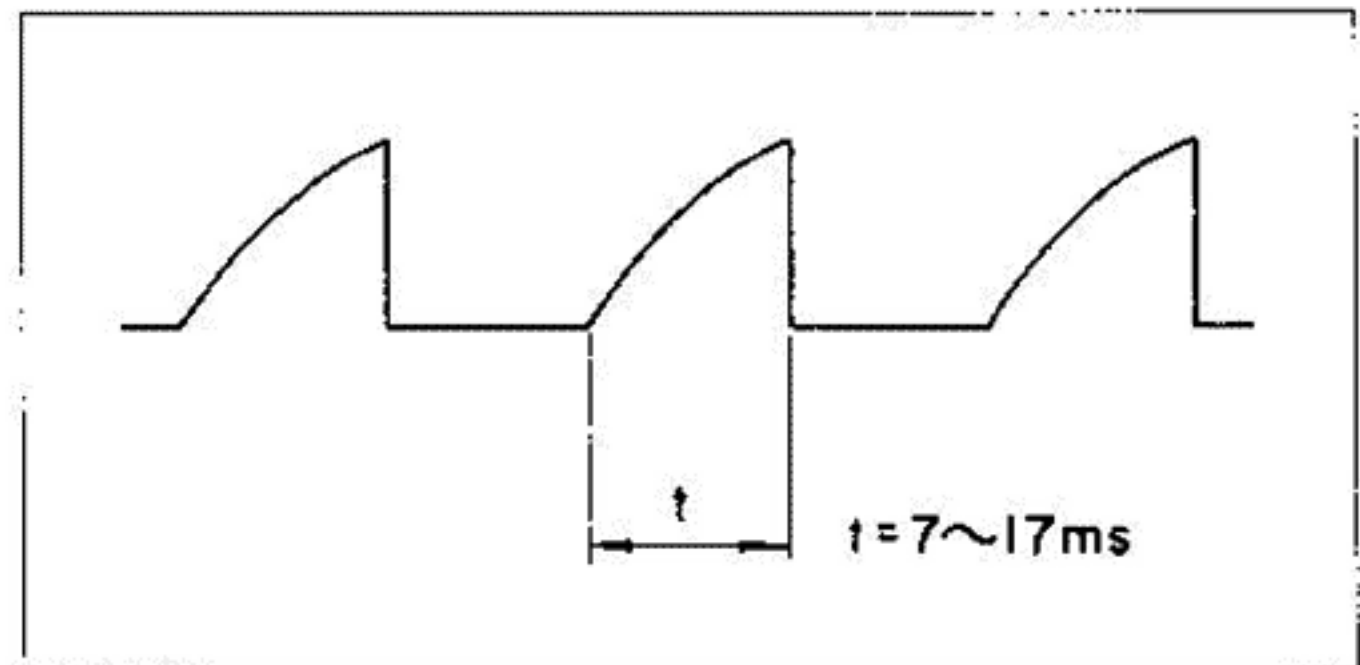

Fig. 15
4. Connect oscilloscope with CRT connector and GND and make sure that the wave form shown in Fig. 15 is observed.